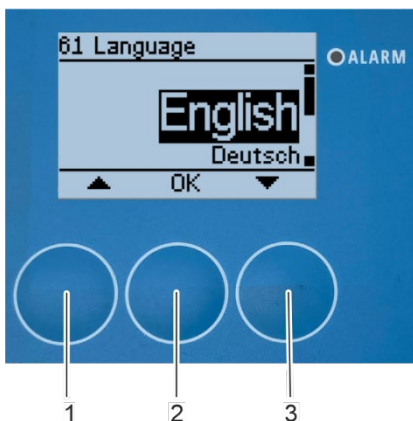

Fig. 108: Language selection
1. Use the arrow keys [up] (Fig. 108/1) and [down] (Fig. 108/3) to select the desired language.
2. Confirm the selection with [OK] (Fig. 108/2).